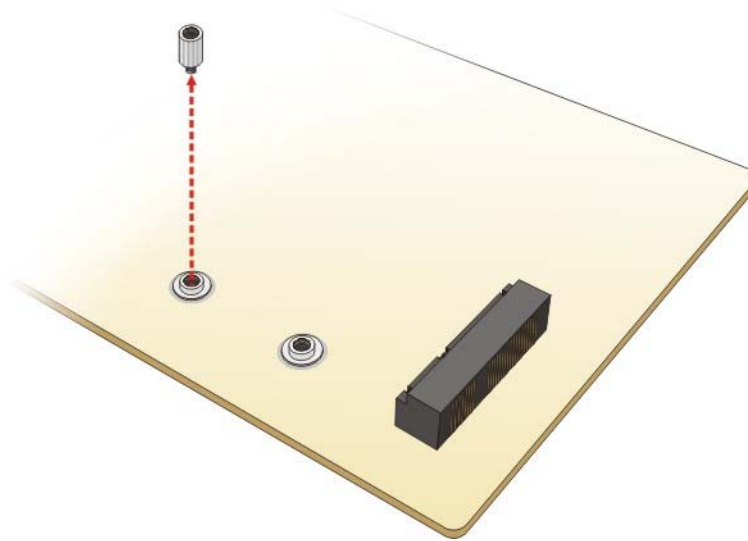

Figure 4-5: Removing the Standoff
Step 3: **Remove the standoff.** Unscrew and remove the standoff secured on the motherboard as shown in **Figure 4-5**.